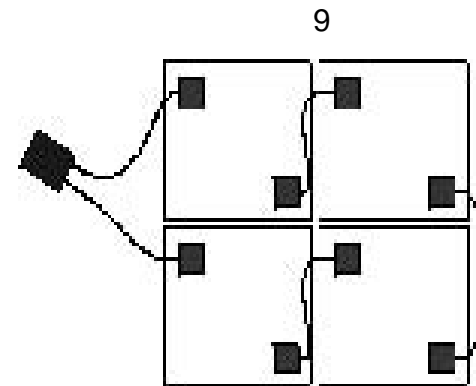

Fig.7
Use the integrated battery charger (Fig. 7/3) to charge batteries. Proceed to connection of the charger by means of the mains cable (Fig. 7/4) with safety plug. Charging batteries is recommended if at least one bar of the LDS display has extinguished after operation of the machine. On this behalf you are requested to observe the operating instructions of the charger 88-60-2723 as well as the operating instructions of the battery manufacturer. In case it is intended to change the type of battery the charger has to be adjusted only by Minuteman contract workshops.
3. Open empty recovery tank (Fig. 7/7) and secure by support (Fig. 7/8).
4. Disconnect battery connector (Fig. 7/5).
2. Open empty recovery tank (Fig. 7/7) and secure by support (Fig. 7/8).
4. Connect battery poles and enclosed connecting cables according to wiring diagram (Fig. 7/9). Provide for tight fitting and grease poles.